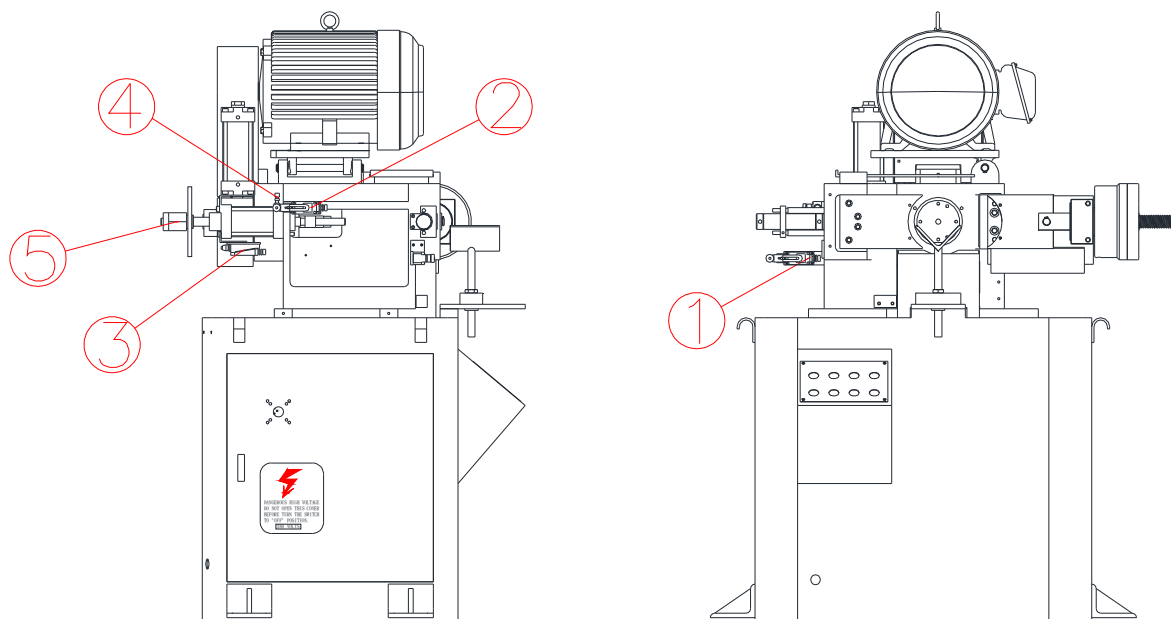

Figure 6-5
2. There are two phases of the entire blade entry stroke speed. The first phase is about 15mm, the speed is faster and unadjustable. The second phase is about 20mm, and it can be adjusted by the blade entry speed control valve (refer to Figure 6-5 4).
Before delivery, we will set up the blade entry stroke, but it can be re-adjusted if necessary. If you need to cut deeper, loosen the set screw of the adjustment ring, and loosen the cylinder stroke adjustment ring (refer to Figure 6-5 5) counterclockwise. If you want to shorten the blade entry, turning the cylinder stroke adjustment ring clockwise, and tighten the set screw of the adjustment ring.